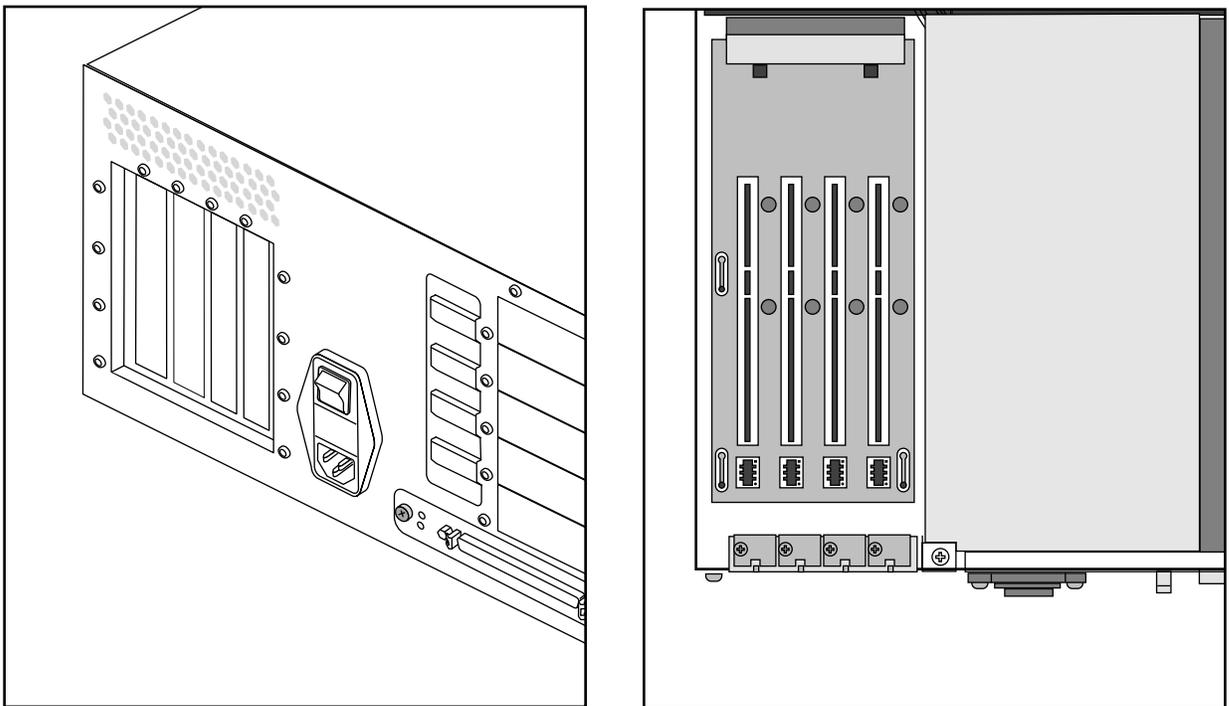

Figure 2-7 Location of PCI Slots in a GIGACHannel Expansion Cabinet
2. Choose an available PCI slot. See Figure 2-7.